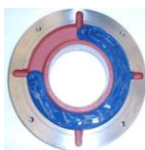

Figure 7.3: Outer bearing cap
- Fill up to $\frac{3}{4}$ of the inner and outer bearing cap deposits with the recommended grease (Figure 7.3) and lubricate the rolling bearing with enough grease before assembling it;